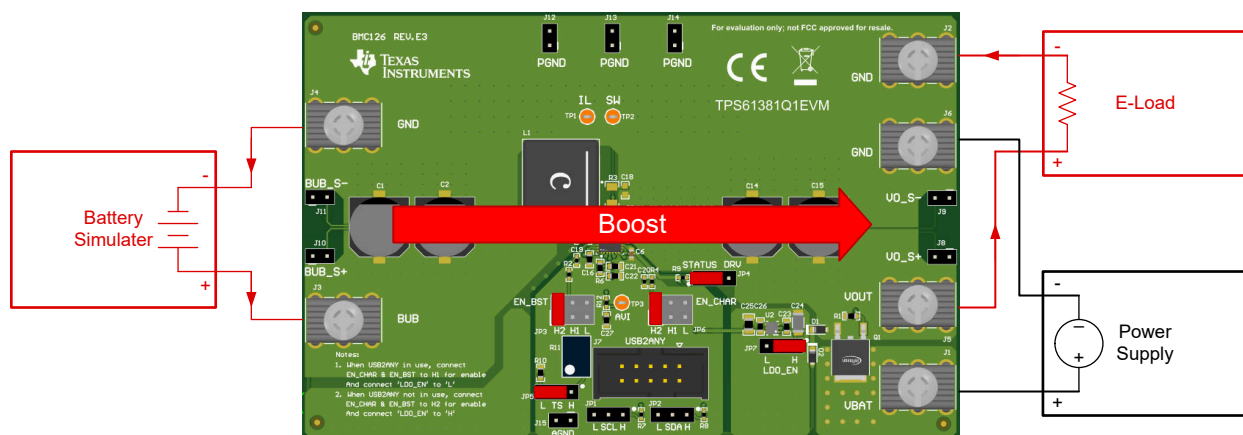

Figure 2-1. Verifying Boost Function
5. Configure the jumpers as Figure 2-1.